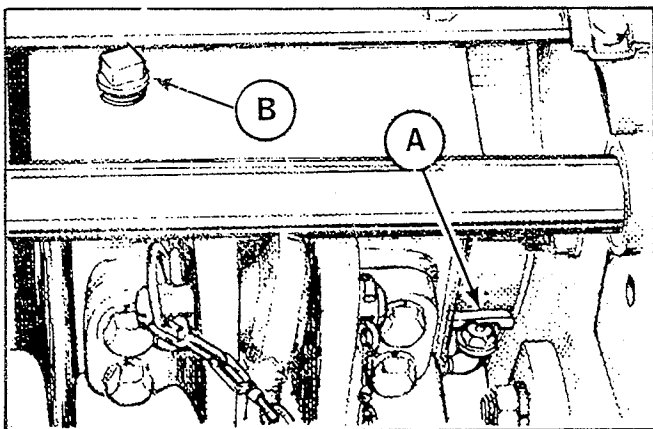

Figure 22. Transmission check cock and filler plug as seen from behind tractor.
See figure 22. The hydrostatic transmission, the tractor hydraulic system and the 3-speed gear transmission all use oil from the 3-speed transmission case. To check the oil level, turn the check cock (A) shown in figure 22 counter-clockwise two turns or until oil runs out. If no oil runs out of the open check cock, remove the oil filler plug (B) and add type A, type F, or Dexron automatic transmission oil until oil drips from the check cock. Tighten the check cock finger tight.